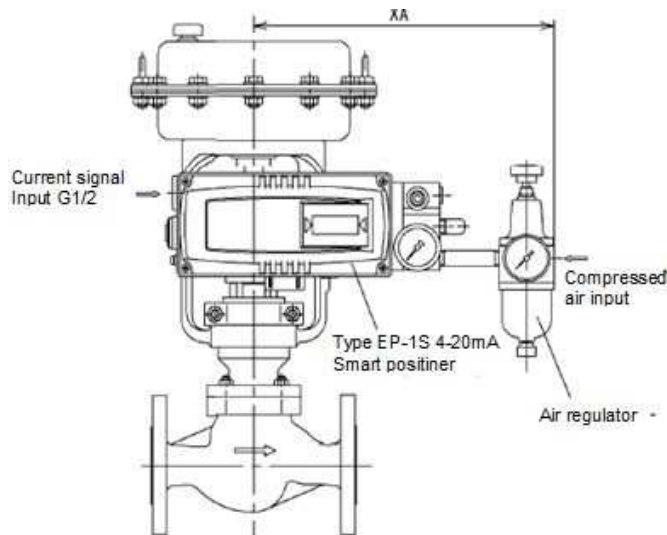

Fig. 7
•When purchasing the goods with accessories, it is delivered by the structure with shown in Fig. 7. Please draw the signal cable from the external DC signal connection port shown in Fig.7. Connection way is 2 wire type. Please confirm and do wire the DC 4-20mA with the external signal line. The positioner operates at 3.2 mA DC of minimum supply current. Do not supply more than 24 mA DC.